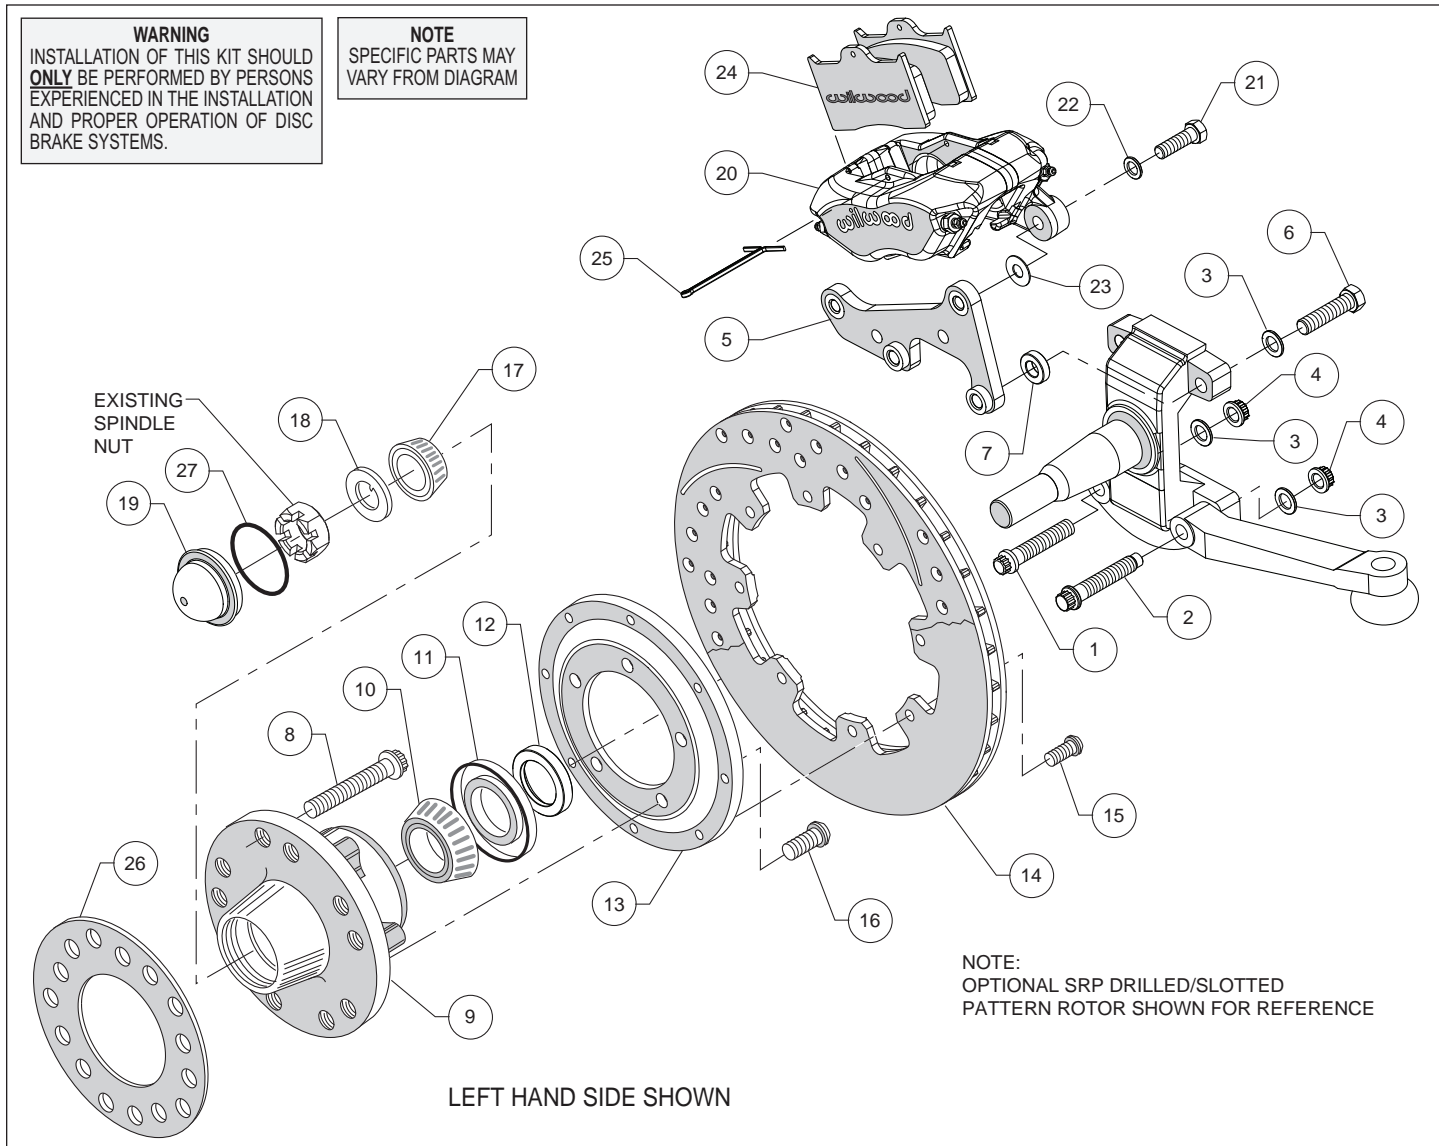
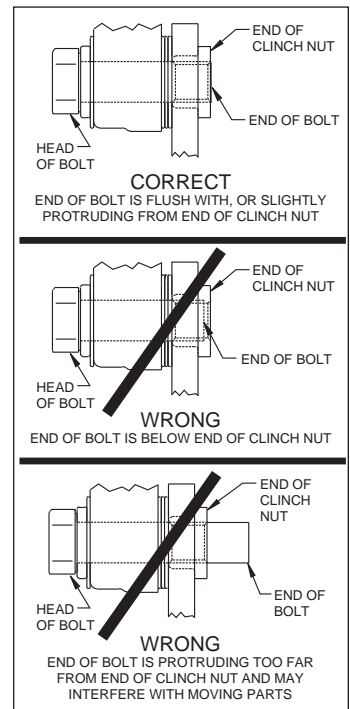

Figure 1. Typical Installation Configuration
Figure 3. Clinch Nut Engagement Diagram
**Assembly Instructions** (numbers in parenthesis refer to the parts list and Figure 1 on the preceding pages): **CAUTION:** *All mounting bolts must fully engage clinch nuts.* Be sure to check that all bolts are either flush or protruding through flanged side of clinch nut after shimming, Figure 3.
- One at a time, remove the two lower OEM bolts that secure the steering arm from the back side of the spindle. Replace with new bolt (1), in the forward most hole, and bolt (2) in the rear hole, Photo 1. **NOTE:** *The longer bolt with the end of the threads turned down is the steering stop.* The new bolts are installed in the opposite direction as the original bolts, from the outside, Photo 2. Secure bolts using washer (3) and nut (4) as shown in Figure 1. Torque nuts to 47 ft-lb.
- Orient the caliper mount bracket (5) as shown in Figure 1 and Photo 2, and install using bolts (6) and washers (3). Place spacers (7) between spindle and bracket. Ensure that the flanged heads of the clinch nuts in the bracket are facing outboard, Photo 2. Temporarily tighten the mounting bolts. **NOTE:** *The bracket must fit squarely against the mount bosses on the upright.* Inspect for interference from casting irregularities, machining ridges, burrs, etc. Remove bolts one at a time, apply red *Loctite*® 271 to the threads and torque to 60 ft-lb.
- Install wheel studs (8) into the hub (9), Photo 3. Torque to 77 ft-lb.
- Pack the large inner bearing cone (10) with high temperature disc brake bearing grease (available from your local auto parts store) and install into the backside of the hub (9), Photo 4.
- Install the grease seal (11) by pressing into the backside of the hub (9), flush with the end of the hub, Photo 4.
- Orient the rotor (14) and the rotor adapter (13) as shown in Figure 1 and Photo 5. Attach the rotor to the adapter using bolts (15). Using an alternating sequence, apply red *Loctite*® 271 to the threads, and torque to 25 ft-lb.
- Mount the adapter/rotor assembly (13/14) to the hub (9) using bolts (16), as shown in Figure 1 and Photo 6. Using an alternating sequence, apply red *Loctite*® 271 to the threads, and torque to 45 ft-lb.
- Slide the bearing spacer (12) onto the spindle. Ensure the chamfered I.D. faces inward, Photo 7.
- Pack the small outer bearing cone (17) with high temperature disc brake bearing grease and install into hub (9). Slide the hub/rotor assembly onto the spindle. Secure using spindle washer (18) and nut, Photo 8. **NOTE:** *The O.D. of the existing OEM spindle washer may be larger than the I.D. of the dust cap not allowing it to seat against the hub face. Therefore, use the spindle washer (18) supplied with the kit instead of the OEM washer. Adjust bearings by tightening the wheel bearing nut to 60 in-lbs. while turning the hub/rotor assembly. Back off the adjusting nut one slot and install a new cotter pin (not supplied). The resulting adjustment should be zero (no pre-load to 0.003 inch end play). NOTE: The left hand spindle has left hand threads.*
- Install the o-ring (27) onto the dust cap (19). Press the dust cap into the hub (9), Photo 9.
- NOTE:** *Please reference the caution statement at the beginning of the assembly instructions. Mount the caliper (20) onto the caliper mounting bracket (5) using bolts (21) and washers (22), as shown in Figure 1. Initially place one .035" thick shim (23) on each bolt between the caliper and the bracket, Photo 10. Temporarily tighten the mounting bolts and view the rotor (14) through the top opening of the caliper. The rotor should be centered in the caliper, Photo 11. If not, adjust by adding or subtracting shims between the bracket and the caliper. Always use the same amount of shims on each of the two mounting bolts. NOTE: The end of each bolt must be flush with or slightly protruding from the head of the clinch nut, as shown in Figure 3. If necessary place spare shims between washer (22) and caliper mounting ear to achieve the proper clinch nut engagement. Once the caliper alignment and clinch nut engagement are correct, remove the bolts one at a time, apply red *Loctite*® 271 to bolt threads, and torque to 40 ft-lb.*
- Install the disc brake pads (24) into the caliper, with the friction material facing the rotor (14), and secure in place using cotter pin (25), Photo 12.
- Install wheel spacer (26) as shown in Figure 1 and Photo 13. Temporarily install wheel and torque lug nuts to manufacturer's specification. Ensure that the wheel rotates freely without any interference. **NOTE:** *Wheel spacer (26) MUST be used if any wheel contact surfaces overhang the outside diameter of the hub face. See warning on page 3.*